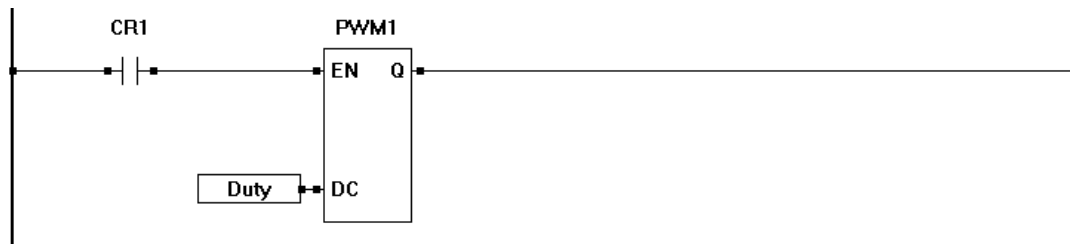

Figure 8-4
To control a PWM output, specifically when it is enabled, disabled and its duty cycle, the **PWM** function block is used. This function block has two inputs (EN for Enable and DC for Duty Cycle) and also has one output (Q). When the PWM function block is enabled (the EN input is true), the PWM channel is active and operating at the frequency defined in the project settings and the Duty Cycle (variable connected to DC of the PWM function block). When the EN input is false, the PWM channel output is disabled. Figure 8-4 illustrates the PWM function block in a sample circuit.
In addition to an adjustable duty cycle, the PWM clock frequencies (CLK A / CLK B) can be changed in the ladder diagram project by use of the PWM_FREQ function block. The PWM_FREQ function block has two inputs (EN for enable and F for frequency) and one output (Q). When the EN is true, the PWM channel frequency is changed to the value of the variable connected to the F input of the function block. Figure 8-4 illustrates a sample circuit using PWM_FREQ.